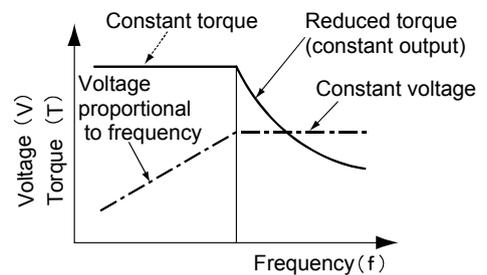

Fig. 1.6 Constant torque and constant output range
- (1) If the ratio of V/f is constant, the torque is constant.
- (2) When the voltage (V) is constant and only the frequency (f) varies, the torque is inversely proportional to the frequency if the motor current is constant.
- The relationship between the voltage and the torque to the change of frequency described as above is shown in Fig. 1.6. The relationship between the output voltage and output frequency of the inverter is called "V/f pattern". This is an important factor to control the motor.